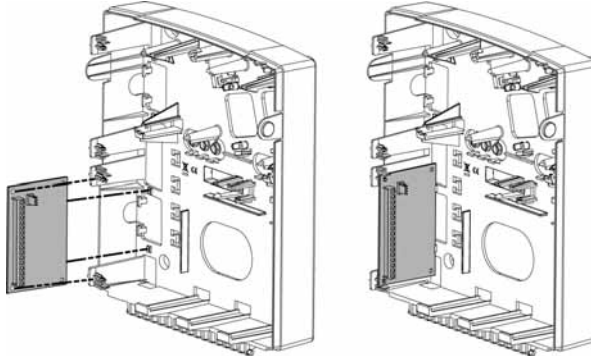

Figure 3-3: Zone Expander mounting location inside the LightSYS2 box
4. Mount the Utility Output Expansion Modules in the main panel cabinet, depending on space availability or in a separate cabinet (see Figure 3-3) .